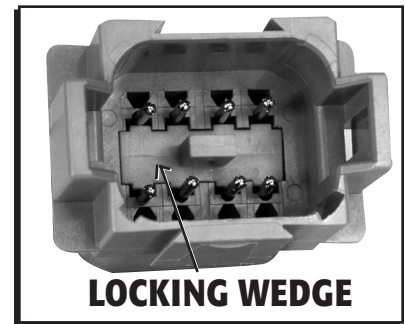

Figure 4 Installing the Wedge.
3. With all of the terminals in place, install the wedge to lock the terminals into position (Figure 4). Insert the wedge between the two rows of pins until it is firmly in place. Do not force the wedge in. If it does not click in to position, check the location of the terminals.